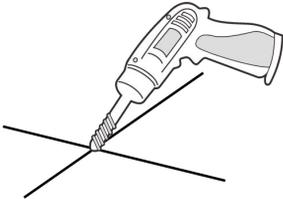

Figure.1
1. Drill holes, with 102-105mm depth, on the ground using an electric hammer.(Figure.1)